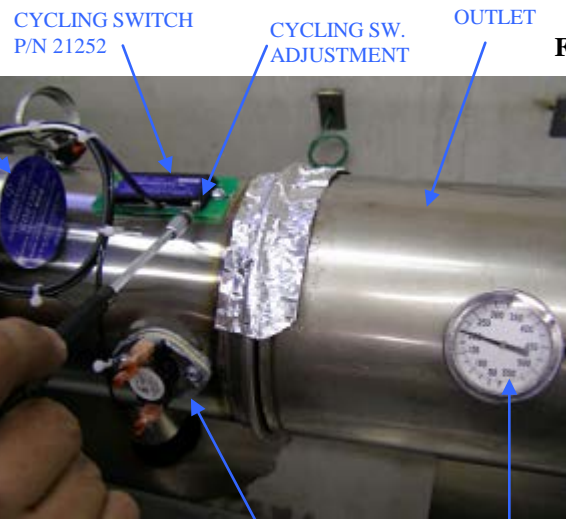

Figure 3
- E. With the heater running, verify that the outlet plenum temp. is approx. 250°. Adjust the cycling switch if needed using a small straight slot screwdriver. Clock-wise to increase, counter-clock-wise to decrease temperature. (Fig. 3)